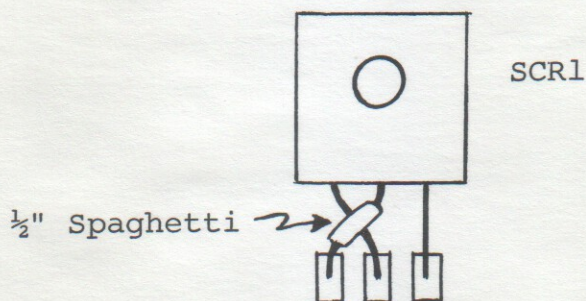

Figure 1. SCRL installation.
- () Position SCRL (IR106B2 or MCR106-2) on heat sink with component nomenclature up and observe how the left and center leads must be bent to install SCRL as shown in Figure 1. Bend these two leads as required and install a $\frac{1}{2}$ " piece of spaghetti over the center lead. Place circular mica insulator between heat sink and SCRL, insert leads and fasten SCRL-insulator-sink to PC board with a 4-40 x 7/16 screw, lockwasher and nut. Insert screw from back (solder) side of board and drive nut finger tight.